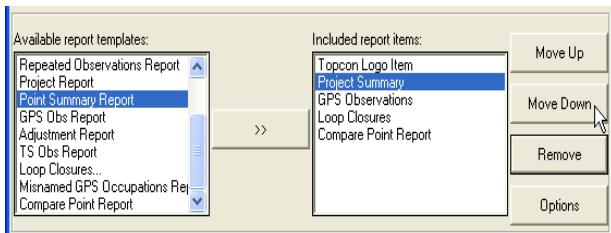

Figure 7-31. Order Included Items
- Select items and click the **Move Up** and **Move Down** buttons to set the order of items in the included list (Figure 7-31).